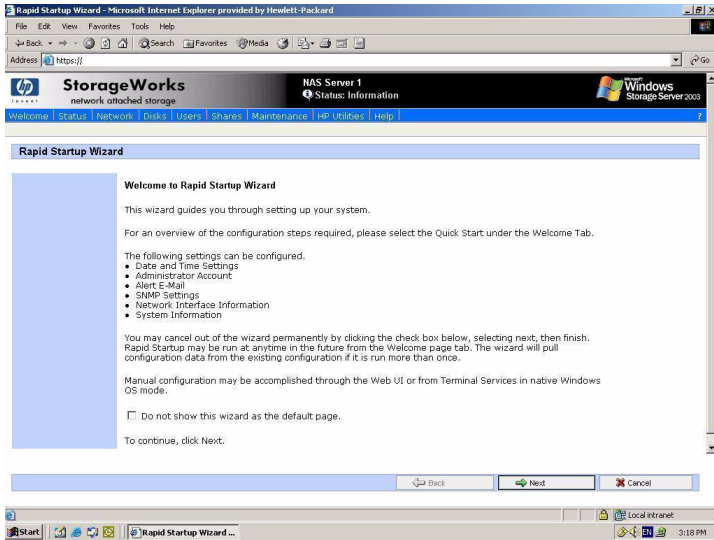

Figure 7: Rapid Startup wizard screen
10. Login to the WebUI. This launches the WebUI configuration application (Rapid Startup) on the target HP StorageWorks NAS device, as shown in Figure 7.
4. Login to the WebUI. This launches the WebUI configuration application (Rapid Startup) on the target HP StorageWorks NAS device, as shown in Figure 7.
5. Open Internet Explorer to launch the WebUI configuration application (Rapid Startup) on the target NAS device, as shown in Figure 7. If the WebUI does not launch connect to the `LocalHost` and login to the WebUI.
Ensure that an Internet Explorer window has been opened and the WebUI is at the Rapid Startup Wizard as shown in Figure 7.